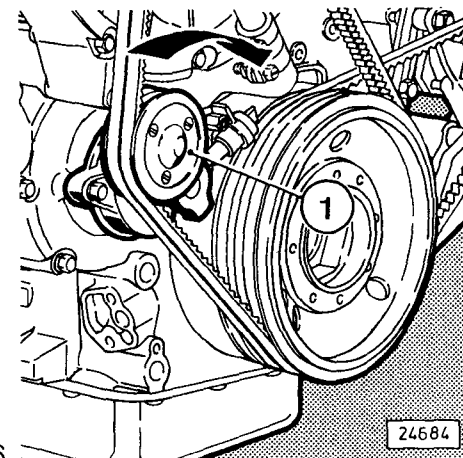

Fig. 46
- Push idler pulley 1 (Fig. 46) vigorously inwards.
Not applicable to cooling blower drive with automatic tensioning pulley 1 (fig. 46).